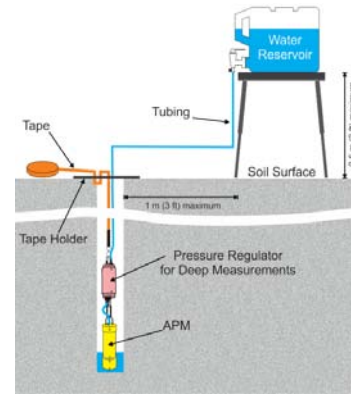

Fig. 10. Schematic positioning of Aardvark Permeameter components.
**Connect the Valve to the Reservoir** and make sure the spigot is closed (Fig. 10).